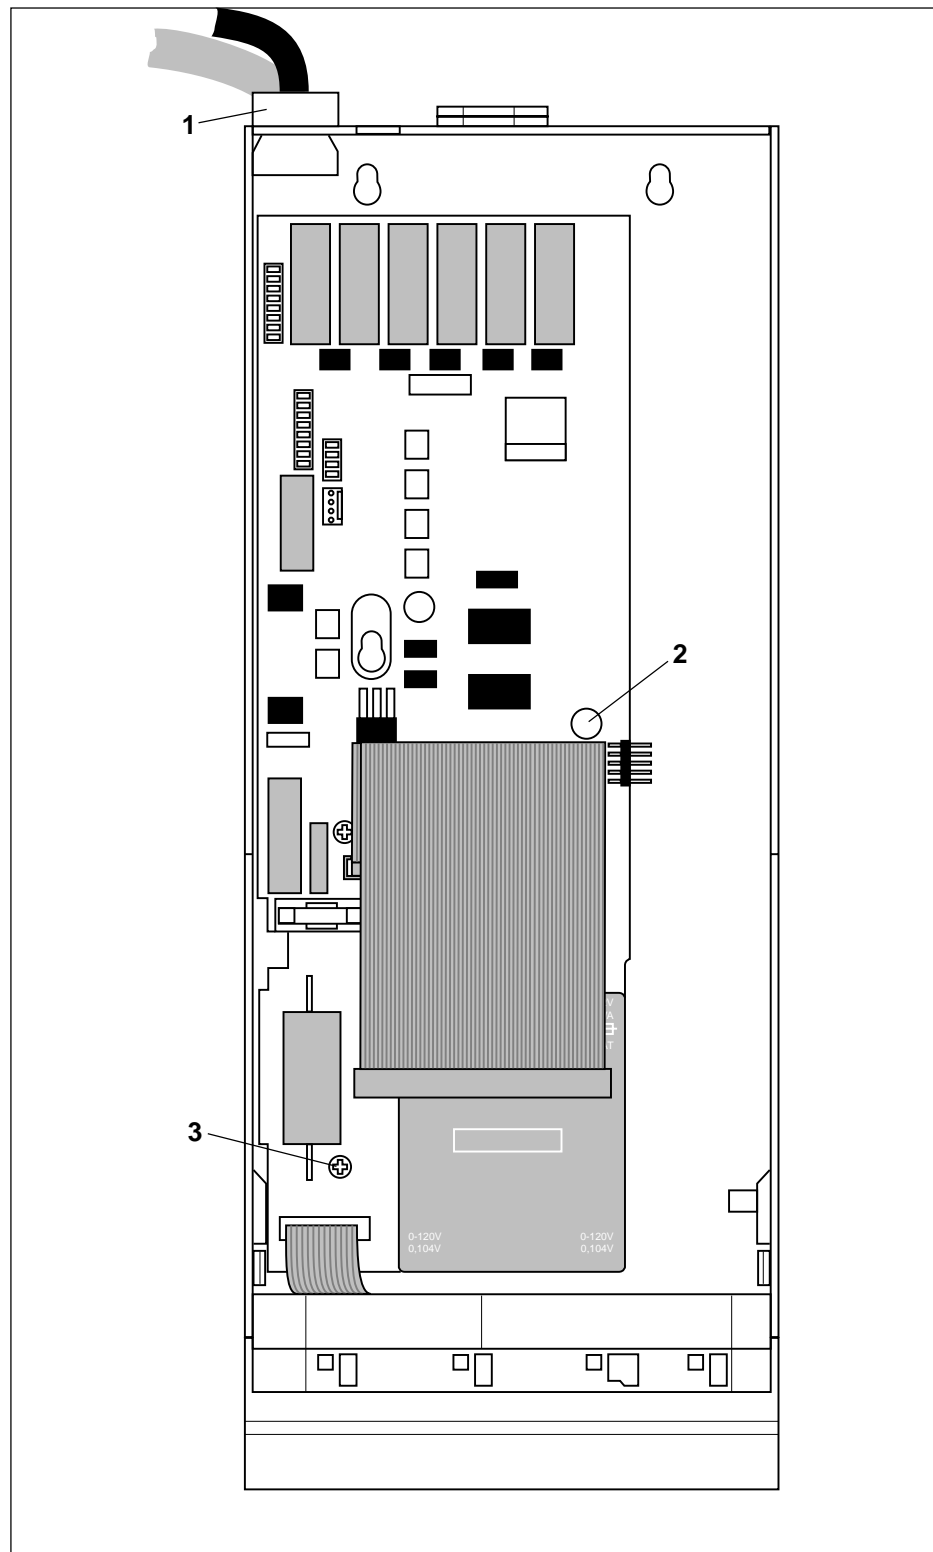

Fig. 21: Exchanging the interface module
- Remove screws (2+3) (fig. 21).